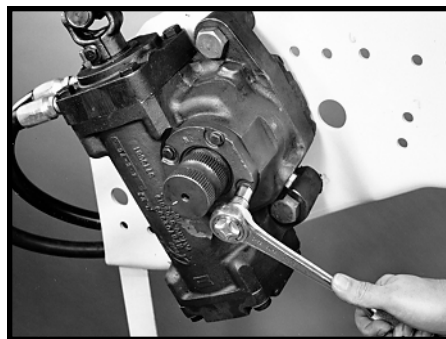
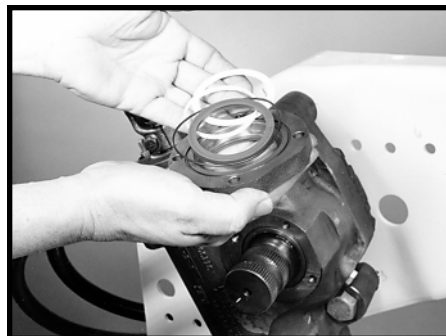

Figure 10
Figure 11
- 1.4 Next, remove the four trunnion cover bolts (28) washers (27) and trunnion cover (25). SEE FIGURE 10. A 1/2 inch socket required. Be prepared for fluid loss. Then remove and discard the sector shaft seal package consisting of the two-piece sector shaft seal (23), the Teflon* backup washer (24), and the trunnion cover seal ring (22). SEE FIGURE 11.